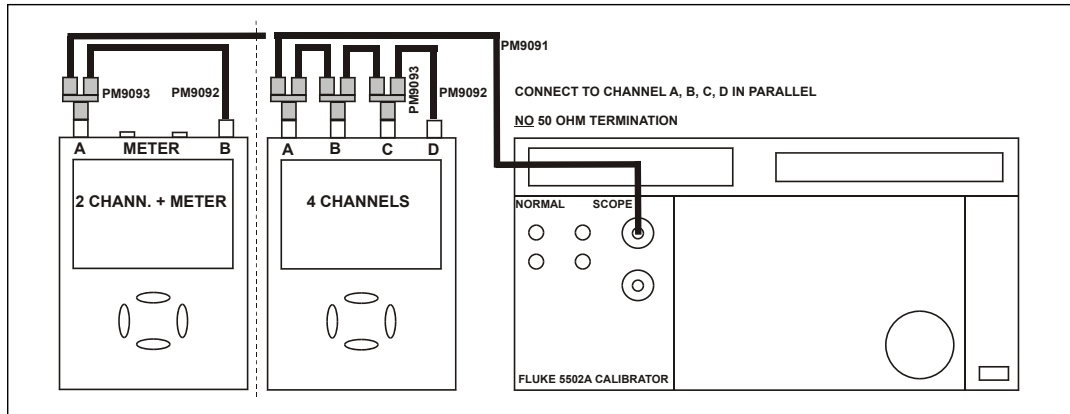

Figure 4-5. 5502A Scope Output to Test Tool Input A, B, C, D
1. Connect the Test Tool to the 5502A as shown in Figure 4-5. Do not use 50  $\Omega$  terminations.
1. Connect the Test Tool to the 5502A as shown in Figure 4-5.